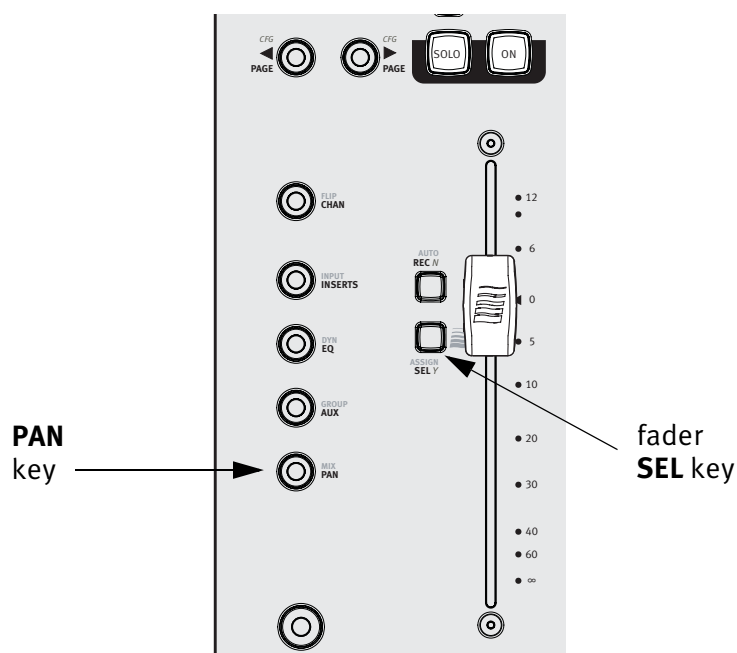

Figure 3-1 Strip 1 fader **SEL** key
1. Press the MC Mix's strip 1 fader **SEL** key (Figure 3-1).
3. When the MC Mix is first powered up, the **PAN** key is lit by default. If it is not lit, press the **PAN** key (Figure 3-1).